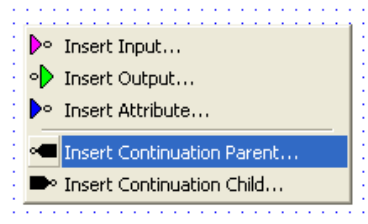
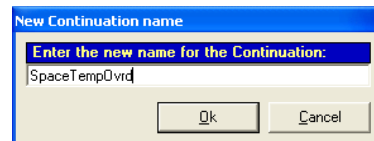

Figure 91: Insert Continuation Parent
Figure 92: New Continuation Name
3. To create a continuation parent, right-click on an empty space in the canvas and select Insert Continuation Parent (Figure 91). The New Continuation name window appears (Figure 92).